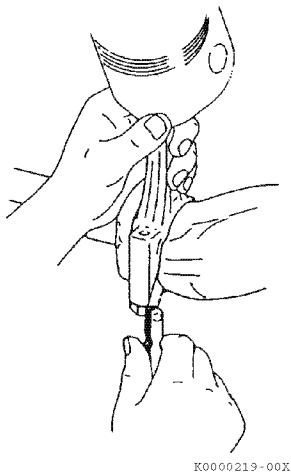

Figure 6-47
1. Using a feeler gauge, measure the connecting rod side clearance (**Figure 6-47**). See *Connecting Rod* on page 6-9 for the standard limit. If the measurement is out of specification, replace the crankshaft, connecting rod or both.